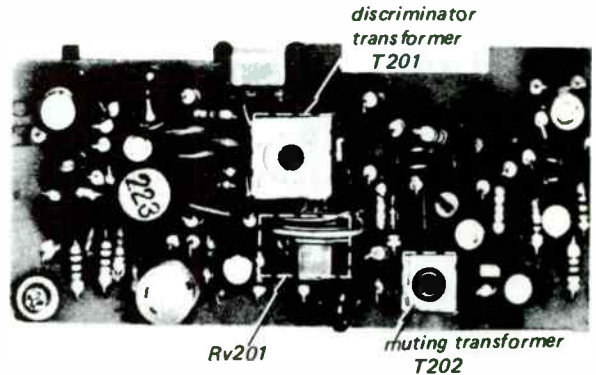

**Fig. 3-3 Discriminator alignment test setup**
1. With the equipment connected as shown in Fig. 3-3, set the tuner's control as follows: